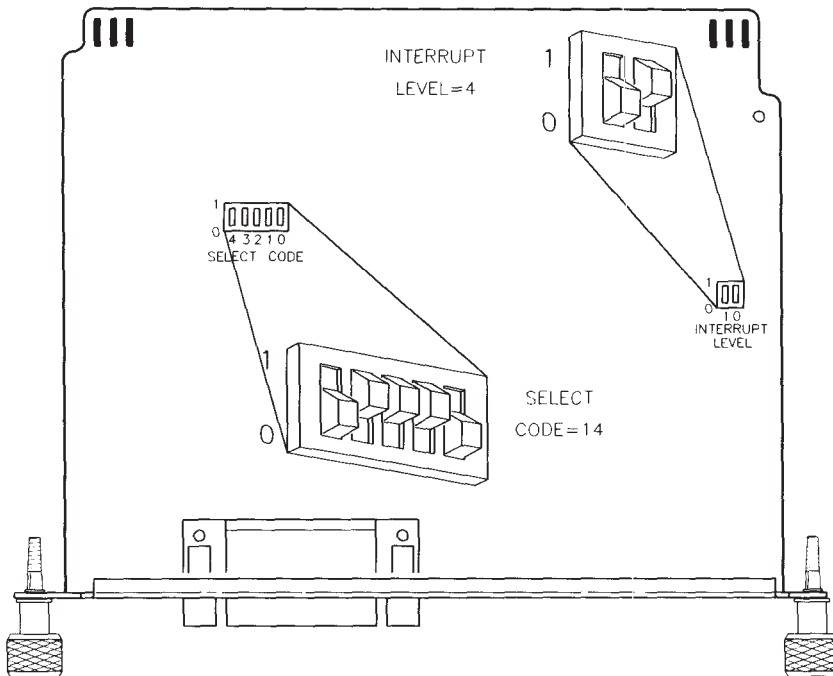

Figure 5-10.
- a. Find the set of five select code switches by referring to Figure 5-10.
- a. Find the Interrupt Level switches by referring to Figure 5-10.
- b. If using HP-UX, set these switches to interrupt level 4 as shown in Figure 5-10. To get interrupt level 4, set the left switch to 0 and the right switch to 1. *Do not set any other interface to interrupt level 4.*